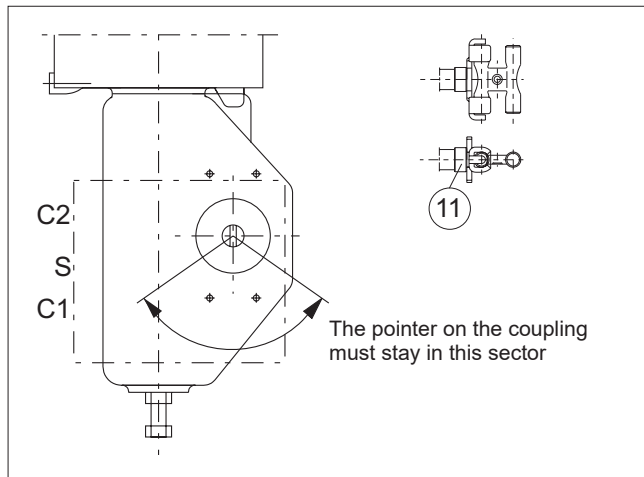

Fig. 7 Mounting on Neles actuator with VDI/VDE mounting face
Shaft coupling alternatives for the controller for Neles actuators are shown in Fig. 7.
- Mount the H-shaped coupling (47) to the shaft. Apply the thread-locking compound to the screw (48) and tighten firmly.
- **BJ and other single acting actuators:** mount a metal plug (53) with sealant to the C1 connection.
- Set the direction arrow of the actuator in the direction of the valve closure member and attach the ear (2) to the indicator cover in the position shown in Section 11.3. Secure the screw of the ear using e.g. Loctite and tighten firmly.
- Attach the bracket (1) to the ValvGuard.
- Attach the bracket (1) to the actuator. The shaft coupling of the ValvGuard must fit into the ear (2) so that the pointer is located in the position shown in Fig. 7.